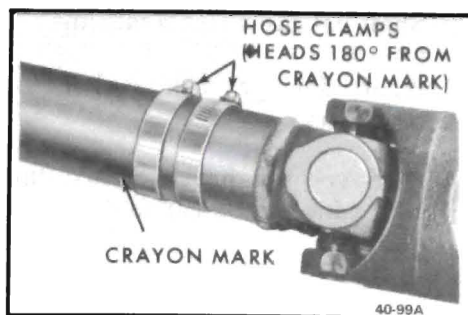

Figure 40-83 - Balance Hose Clamps in Place
2. Mark and number propeller shaft at four (4) points 90 degrees apart at rear of shaft just forward of balance weight.
3. Install two (2) Wittek type hose clamps on the rear propeller shaft and slide them rearward until the clamps stop at the nearest balance weight welded to the tube. Align both clamps to any one of the four marks made on shaft in Step 2. Tighten the clamps. See Figure 40-83.